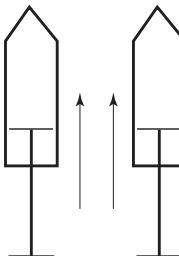

Fig. 3—Two modes of dual pump operations
- (1) Secondary pump adapter (Fig. 3)
4. Attach either end of the other "Network Cable" (Fig. 1) to the "Secondary Pump Adapter (Fig. 3) RJ-11 connector.